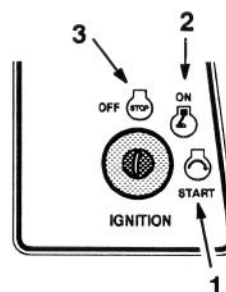

Figure 7
5. Turn the ignition key clockwise and hold it in the “START” position (Fig. 7). When the engine starts, release the key.
2. Turn the ignition key to “OFF” (Fig. 7).